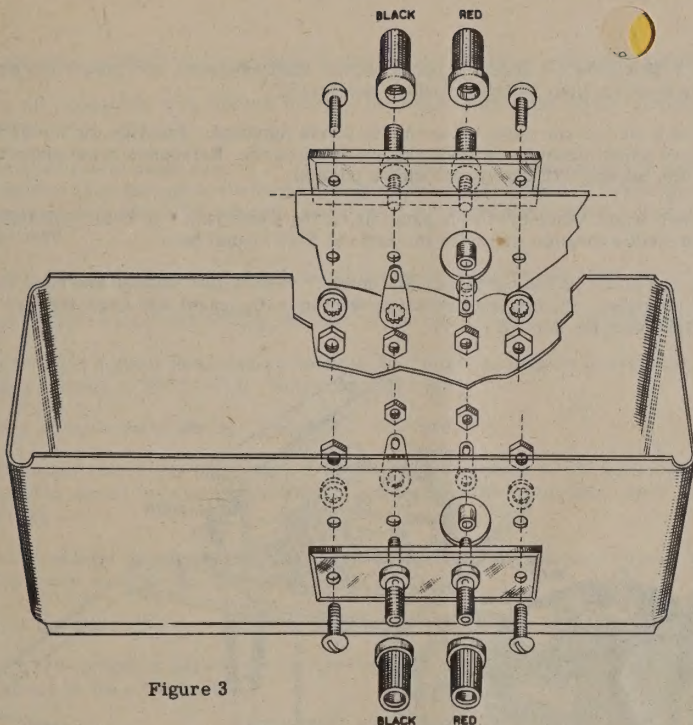

Figure 3
- () Mount the two plastic insulator strips on the case sides using 6-32 screws and nuts with lockwashers on the inside of the case as shown in Figure 3. Align the strips so all holes are centered before tightening.
- () On the threaded portion of the binding post bases protruding through the inside of the case, mount standard solder lugs and secure with 6-32 nuts. Do not use lockwashers whenever solder lugs are used. Position as shown in Figure 3. Do not use the small solder lugs here.
- () Slide a 3/16" spacer over the screw protruding inside the case, then a small solder lug and nut. Mount the lug to face toward the nearest case edge, then bend at right angles to the case side. See Figure 3.